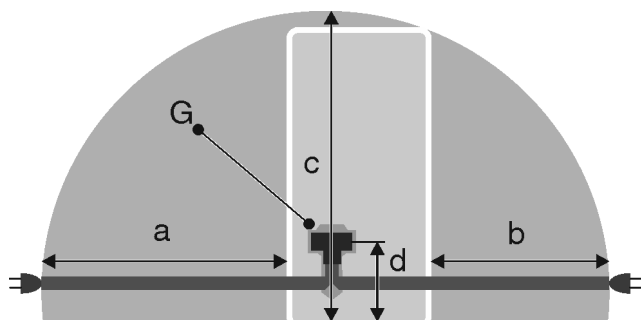

Fig. 25
- The socket is outside the back of the appliance area in the specified area Fig. 25 (a, b, c).
- ▶ Insert the appliance plug Fig. 25 (G) into the back of the appliance. Ensure that it clicks into place.